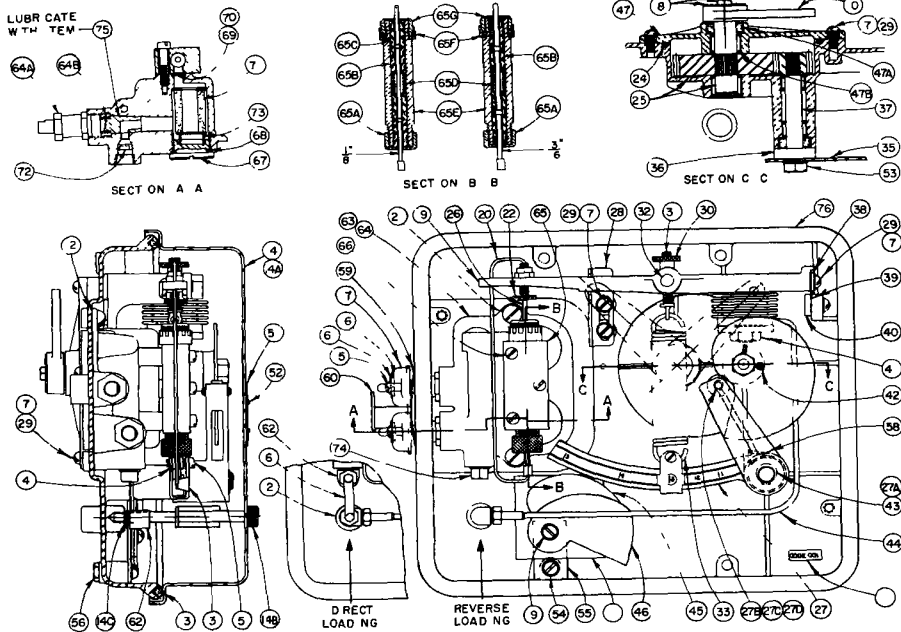

FIGURE 14 - Parts Drawing P92-11, Positioner Assembly
2 Remove pilot valve by removing attaching screws (see Figure 14).
4. Once each year check filters in pilot valve body (Figure 14) and replace if dirty (note that filters are included as added protection and are not a substitute for the required clean air supply).
The Spare Parts Kit shown in Figure 14 should be carried in stock. Specify the Spare Parts Kit part number to order a complete kit
Figure 14 is a Parts Drawing of the Positioner, Pt No 5311450-□. Normally this Drawing will apply to the unit furnished. However, there may be individual differences in specific units because of